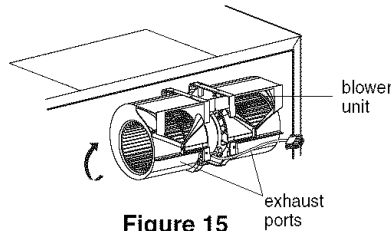
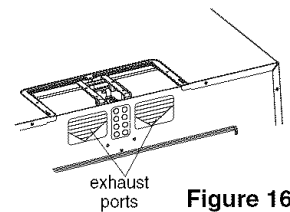

Figure 15
Figure 16
4. Rotate the unit so that the exhaust ports face the rear of the cabinet. See Figure 16. When you insert blower unit, blower wire must be like figure 15.
5. Place blower unit back into cabinet. Check that the exhaust ports face towards the rear of the cabinet. See Figure 16.